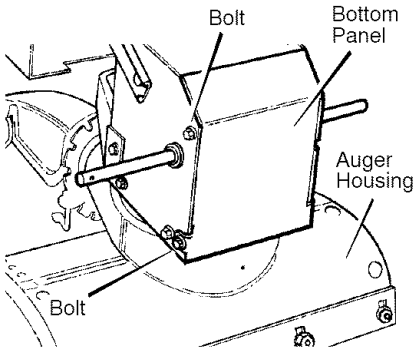

Figure 32
2. Loosen the **bolts** on each side of the **bottom panel** (see Figure 32).
18. Install the **bottom panel** (see Figure 32).
13. Install the **bottom panel** (see Figure 32).